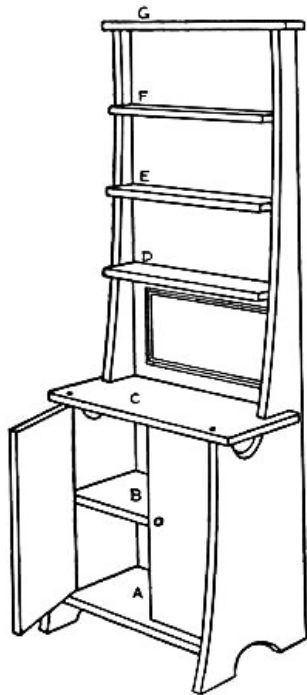

FIG. 132.—A Side-board.
A Side-board similar to Fig. 132 should be made for the dining-room. The pattern for the side pieces is shown in Fig. 122. After sawing these out, cut a piece seven inches long by three inches wide for the back and fasten the side-pieces to the edges of it. The location of the shelves can be obtained best by referring to
Fig. 132 and the pattern in Fig. 122. Cut the bottom shelf (A in Fig. 132) three inches long by an inch and one-quarter wide and fasten it to the side-pieces half an inch above the base (line 24 on pattern, Fig. 122). Make shelf B three by one inches and place it at line 22. C should be three and three-quarters inches long by an inch and one-half wide, with a small notch cut near each end with your knife, to make it fit over the side-pieces (see illustration). Cut shelf D three inches long by half an inch wide, fastening it in place at line No. 17, E three inches long by seven-sixteenths of an inch wide, fastening it at line No. 15, and F three inches long by three-eighths of an inch wide, fastening it at line No. 13. The top shelf (G) is three and three-quarters inches long and half an inch wide and is fastened to the tops of the side-pieces as shown in the drawing.
The lower portion of the side-board is enclosed with two doors two inches high by an inch and one-half wide. Small pieces of cloth may be used for hinges, but it is better to use pins, running them through the shelf above and below (A and C, Fig. 132) into the doors. Stick the pins near the edge of the doors and see that they are straight, so the doors will open easily. A small mirror attached to the back between shelves C and D will complete this piece of furniture.